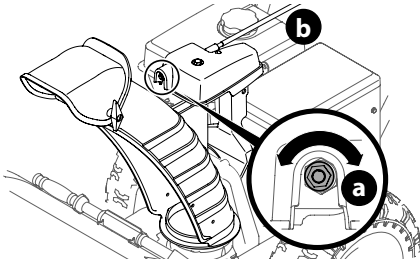

Figure 44
- To increase preload, tighten hex nut (a) clockwise in ¼ turn intervals. The chute control rod (b) will need to be held stationary when tightening the nut (Figure 44).